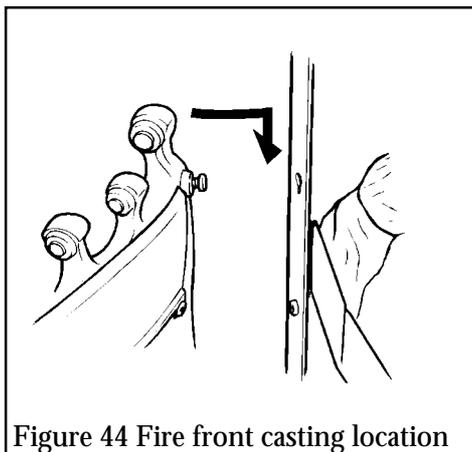

Figure 44 Fire front casting location
14.1 All models except black & chrome front casting Fit the fire front casting to the front surround. Locate the two screw heads at the rear top corners of the casting through the keyhole slots at the inner sides of the surround. If the screw heads do not project enough or project too far, the screws can be adjusted. Lower the casting so that it rests on the hearth (see figure 44).